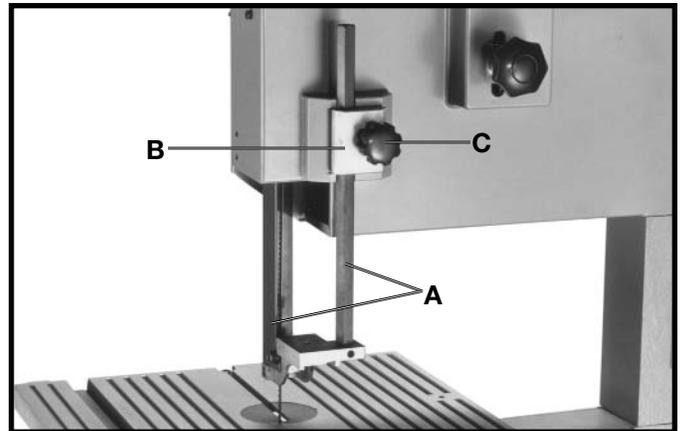

Fig. 11
Fasten the upper blade guide assembly (A) Fig. 11, to the side of the band saw using the lock plate (B) and lock screw (C) as shown.